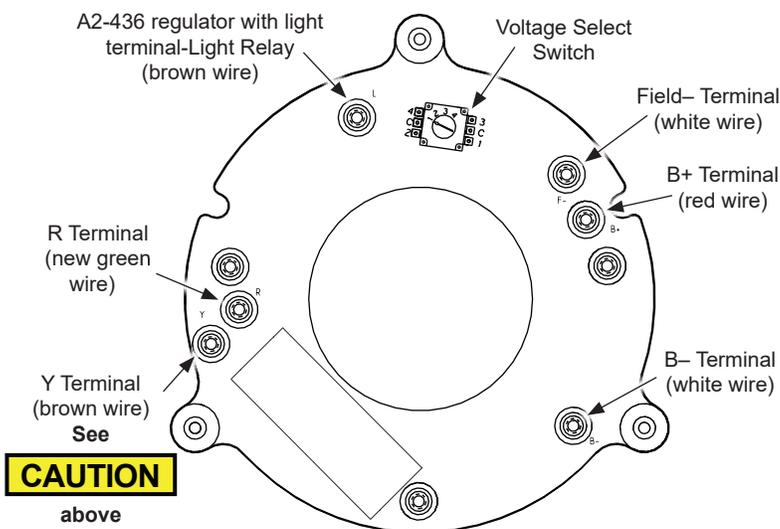

Figure 1: 100 Series ADE Side Connections
3. Install new regulator on ADE side of alternator and connect wires as shown in Figure 1. Connect new green wire to R terminal of regulator. Torque screws to 10 in. lbs./ 1.2 Nm. and cover with RTV.